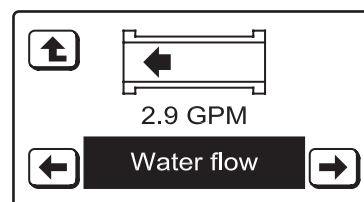

FIG. 83
1. Press the INFO button on the softener's status screen to display the **Water flow** screen (See Figure 83).